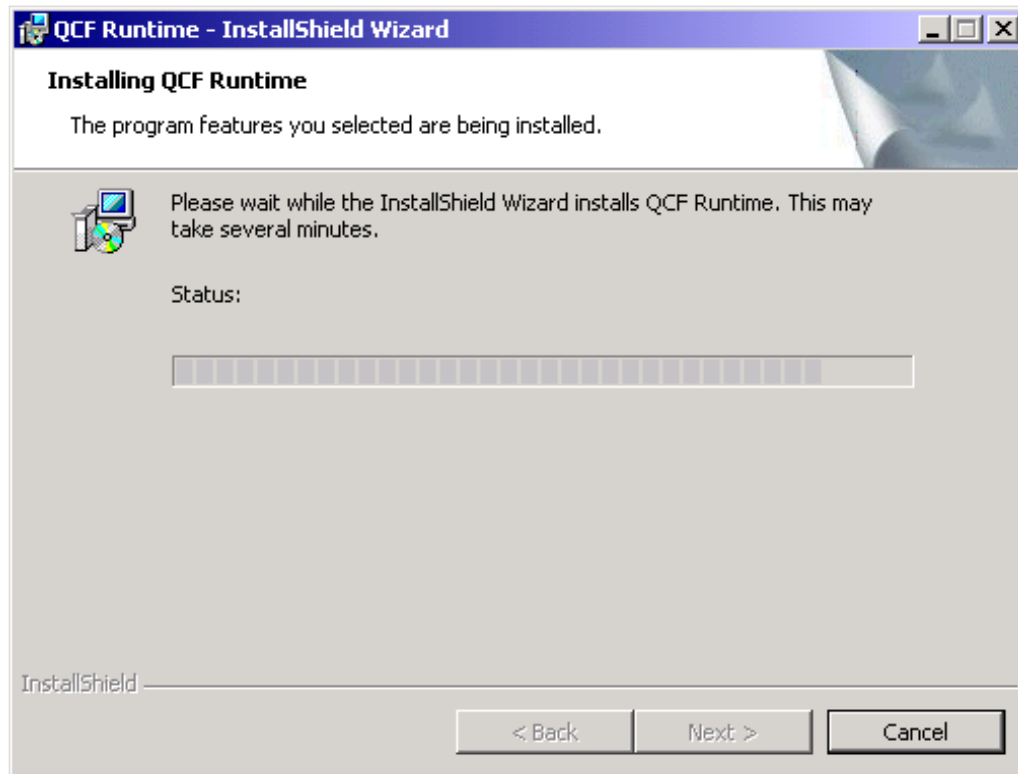

FIGURE 170. Installing QCF Routine window
19. The window in Figure 170 appears as the install is in progress.